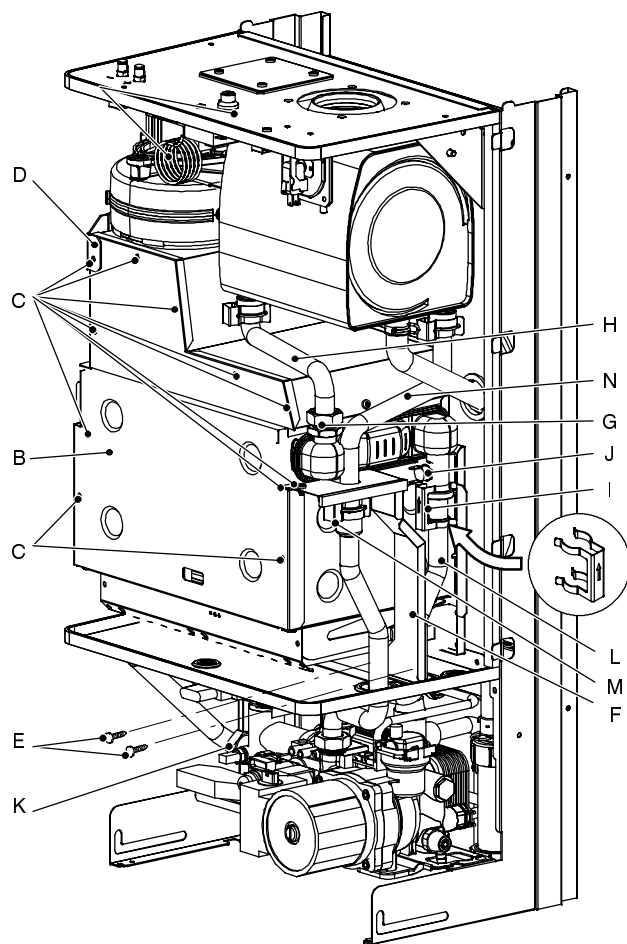

Fig. 11
- 3 Remove the combustion chamber lid B by unscrewing the screws C and removing the clamp D (Fig. 11).
- 11 Reassemble the boiler carrying out the removal operations in reverse order. **Fit the clip I with the arrow pointing upwards as illustrated in Fig. 11.**